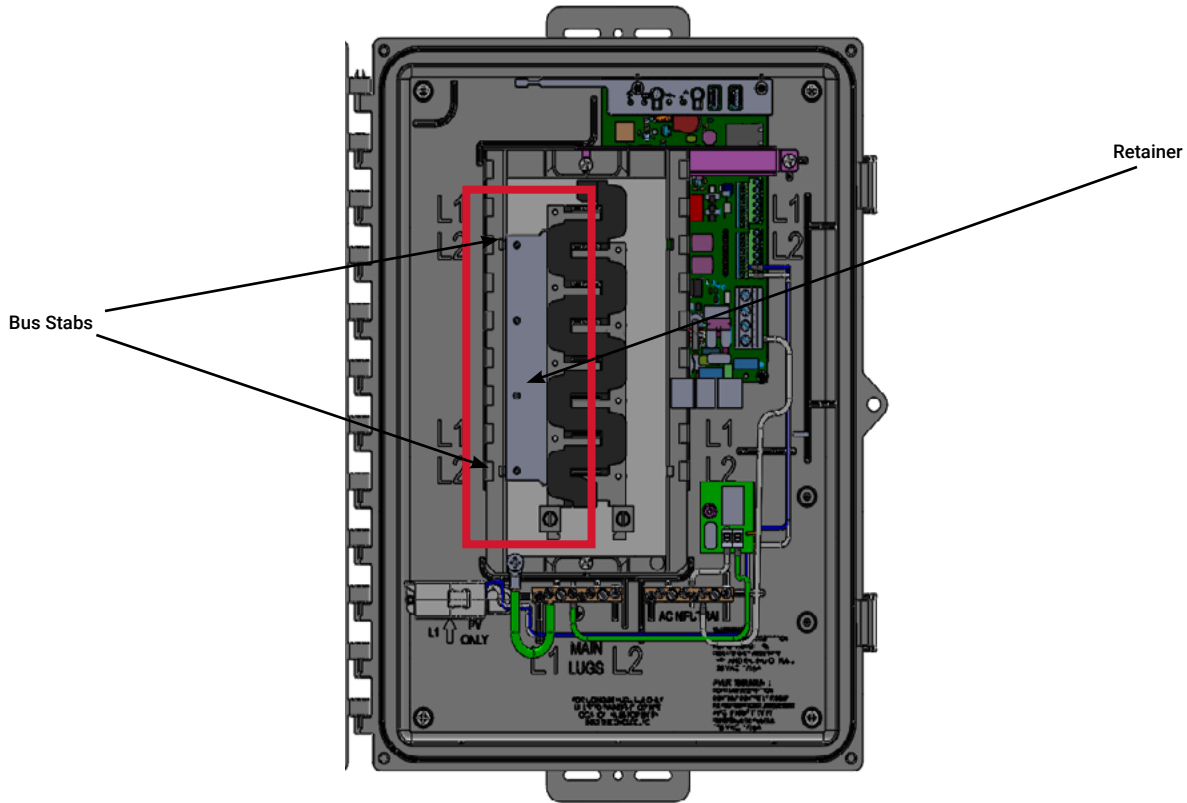

Figure 2. Hold Down Kit Installed on IQ Combiner 4/4C
- B) Refer to Figure 1 and align the retainer over rectangular hole in interior backpan and outside of main bus (Locate the two bus stab locations as shown in Figure 2)